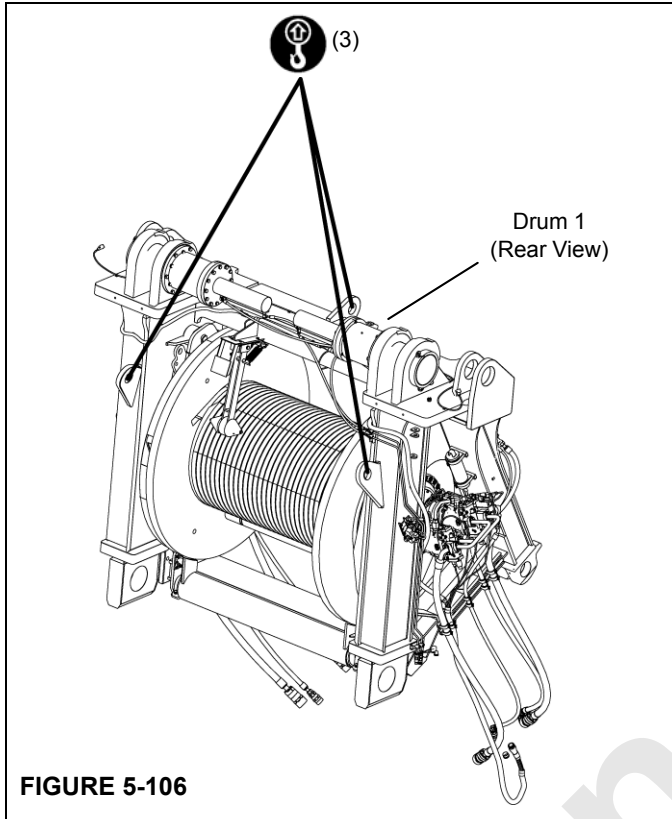

FIGURE 5-106
1. Attach three legs of the chain lifting sling to drum (1) as shown in Figure 5-106.